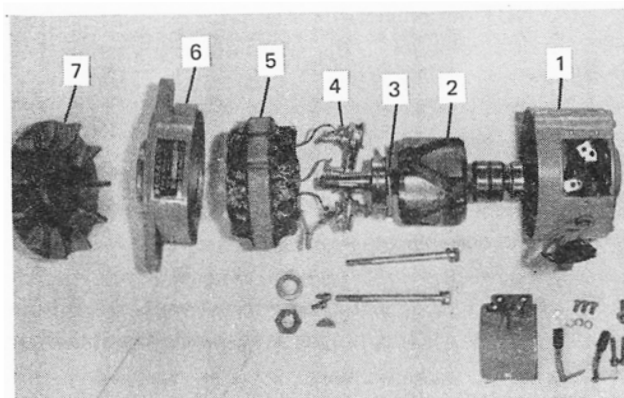

Figure 8
- Remove the screws securing the diode bracket to the stator coil terminal lead wire and then remove the rear cover, Figure 8.
- Remove the screws securing the bearing retainer and remove the rotor assembly, Figure 8.